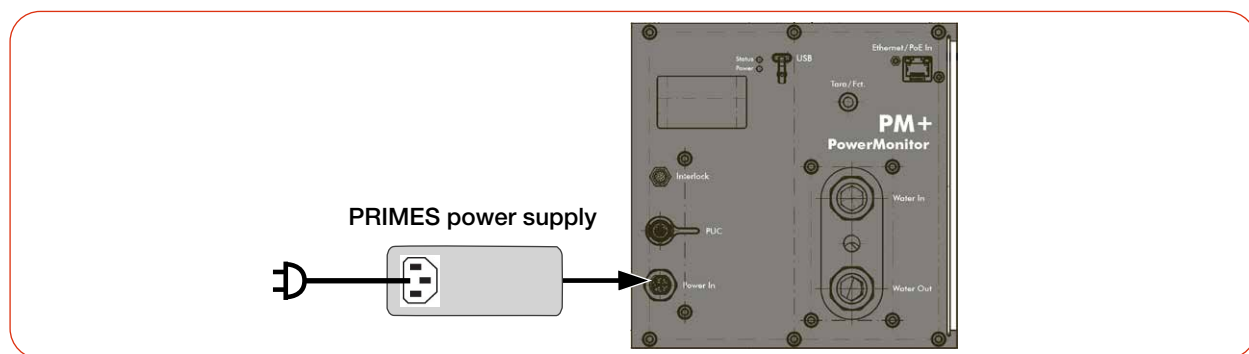

Fig. 7.2: Power supply via PRIMES power supply, display of the measured values on the device
- ▶ Connect the PRIMES power supply according to Fig. 7.2 on page 26.